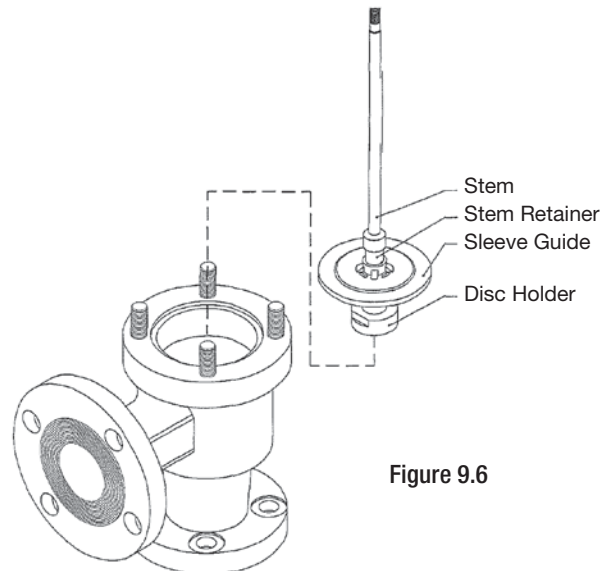

Figure 9.6
13. Lower the **Assembly (Stem** [9], **Sleeve Guide** [8], and **Disc Holder** [6]) into the **Body** [1] counter-bore. (**Figure 9.6**)